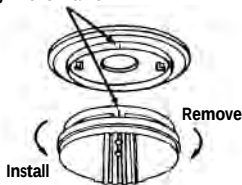

FIGURE 7
6. If you have finished all the WIRING, BATTERY INSTALLATION AND TRIM RING MOUNTING STEPS, you can install the alarm on the trim ring. Alignment marks are provided on the side of the alarm and on the trim ring (see figure 7).
7. Install the alarm on the trim ring with the indicating marks aligned and rotate the alarm in the direction of the "ON" arrow on the cover until the alarm snaps in place (see figure 7).
To replace the battery, remove the alarm from the trim ring by rotating the alarm in the direction of the "OFF" arrow on the cover (see section 4, figure 7). To disconnect the AC power harness, squeeze the locking arms on the sides of the Quick Connector while pulling the connector away from the bottom of the alarm (see section 4, figure 6).